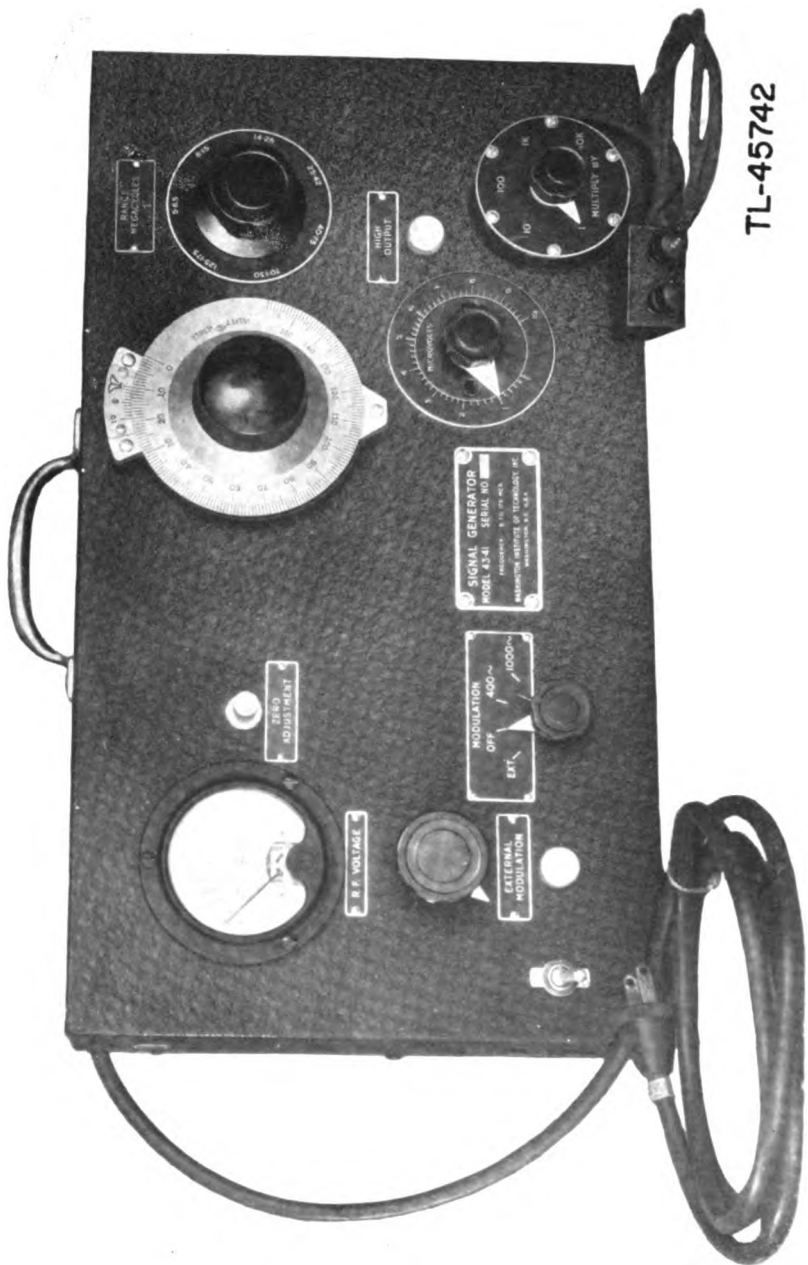

Figure 1. Signal Generator I-187-B (W.I.T. model 45-41).
a. Signal Generator I-137-B (fig. 1) is a self-contained calibrated radio-frequency generator; it has a fundamental range of 5 to 175 megacycles, with or without amplitude modulation. Operation is from a primary power source of 105 to 125 volts, 50-60 cycles. The power consumption at 115 volts is approximately 40 watts.
a. **General.** The signal generator (fig. 1) is housed in a welded aluminum case with a black wrinkle finish. It is provided with bumper feet on the bottom and a carrying handle centrally located on the top. All operating controls are located on the front panel, and the r-f cable, a coaxial line terminated in the terminal box at its end, is permanently attached to the attenuator switch (S-102) marked MULTIPLY BY.